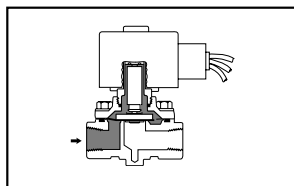

Figure 3A:
- Hung-type diaphragm or piston held open mechanically by the solenoid core. The valve opens and remains open with zero pressure drop (Figures 3A, 3B).